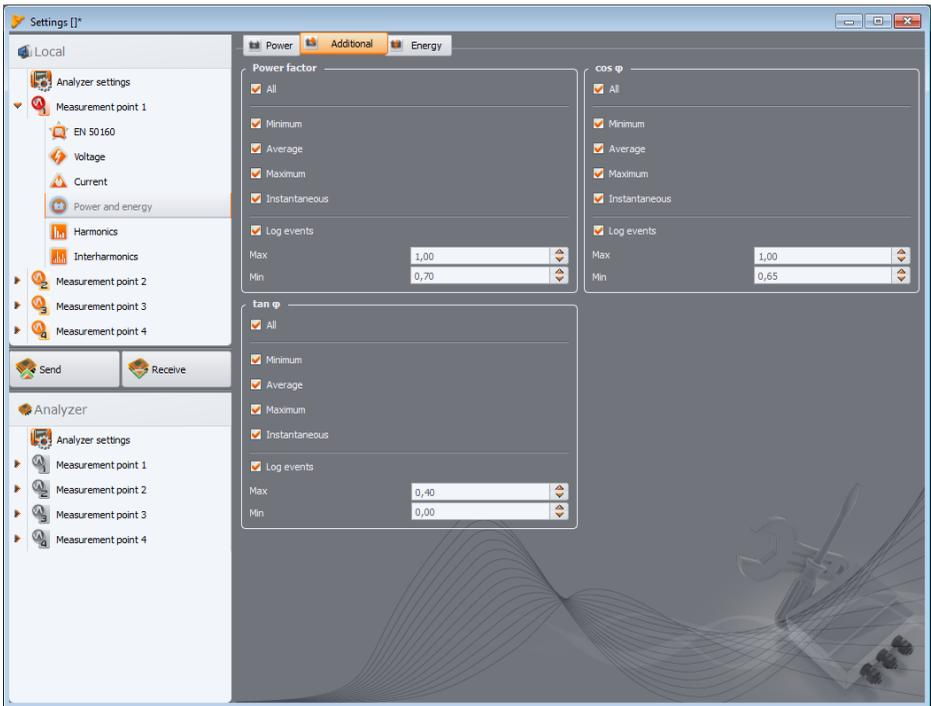

Fig. 24. Power and energy – Additional tab.
**ADDITIONAL** tab (Fig. 24) shows parameters related to the power measurements: